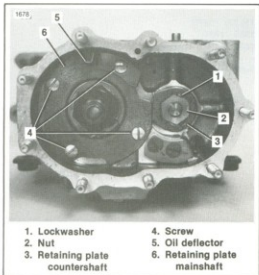

Figure 7-36. Mainshaft and Countershaft Retention — 1978½ - 1979
4. On 1978½-1979 models, see Figure 7-36. Bend the lockwasher (1) ear away from the nut (2). Remove the nut, washer and retaining plate (3).
- Inspect the bearings and countershaft. Replace them if there is any sign of wear. When pressing new bearings into gear (11) coat the outer diameter of the bearing with a light weight oil such as 20-W and press only on side of bearing with numbers or letters stamped on the face. This side should face to the outside of the gear.
- Install a new oil seal (15) onto the countershaft (16, 16A). Tap the countershaft in from the sprocket side of the case. The O-ring should be on the sprocket side of the case.
- Check the gear end play between the washer (1) and the countershaft gear (11). End play should be .004-.012 in. If end play is not within this range, increase or decrease end play by substituting the appropriate size washer (1). Washers are available in the following sizes: 0.074, 0.078, 0.082, 0.085, 0.090, 0.095 and 0.100 in.
- On 1978 1/2-1979 models, see Figure 7-36. Install the retaining plate so the flat side registers against the mainshaft retaining plate. Install the lockwasher and nut. Tighten the nut to 55-60 ft-lbs torque. Bend the lockwasher tab against a nut flat.
2. On 1978½-1979 models, see Figure 7-36. Remove the four screws (4), retaining plate (5) and oil deflector (6).
5. Press the mainshaft all the way into the case until the shoulder on bearing case (4) is seated against the transmission case.
6. Install seal (14) on mainshaft. Press seal into main drive gear using a 5" length pipe with a 1" I.D. and 1-3/16" O.D.
8. On 1978½-1979 models, see Figure 7-36. Install the retaining plate (6), oil deflector (5) and screws (4). Tighten screws to 7-9 ft-lbs torque.